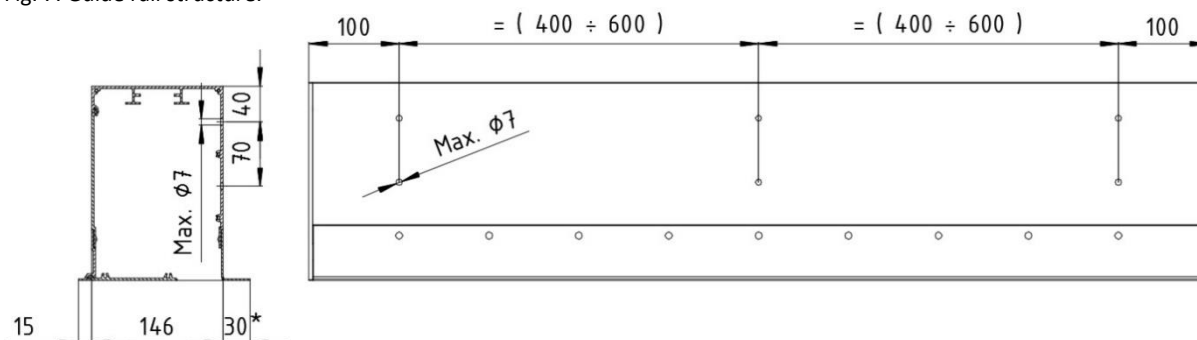

Fig. 8. Scheme of preparation of the installation holes in the under-plaster cassette. \* - variable dimension, usually 30 mm.
- Under-plaster cassette is delivered without installation holes. They have to be done individually according to the below guidelines (Fig. 8). At least 3 openings are required for each 1m of length of the cassette.
4. Prepare installation holes in the under-plaster cassette according to Fig. 8.